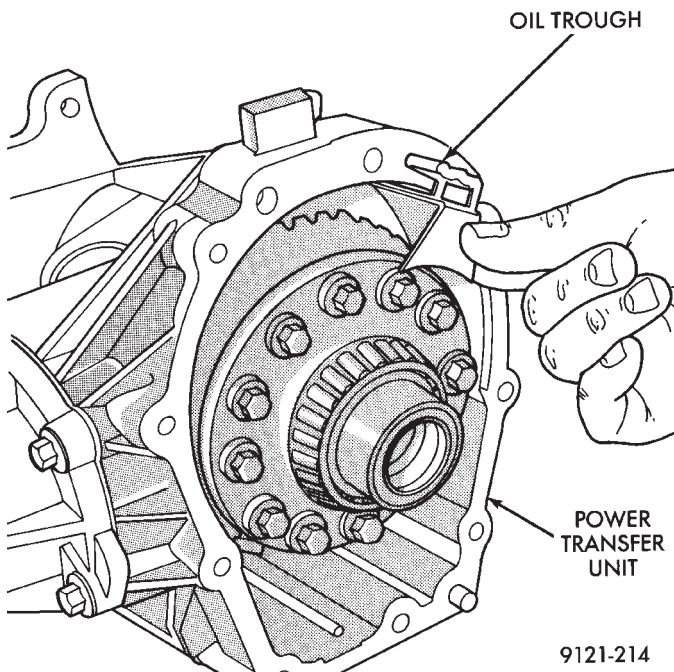

**Fig. 1 P.T.U. End Cover Bolts**
- (1) Remove P.T.U. end cover bolts (Fig. 1).